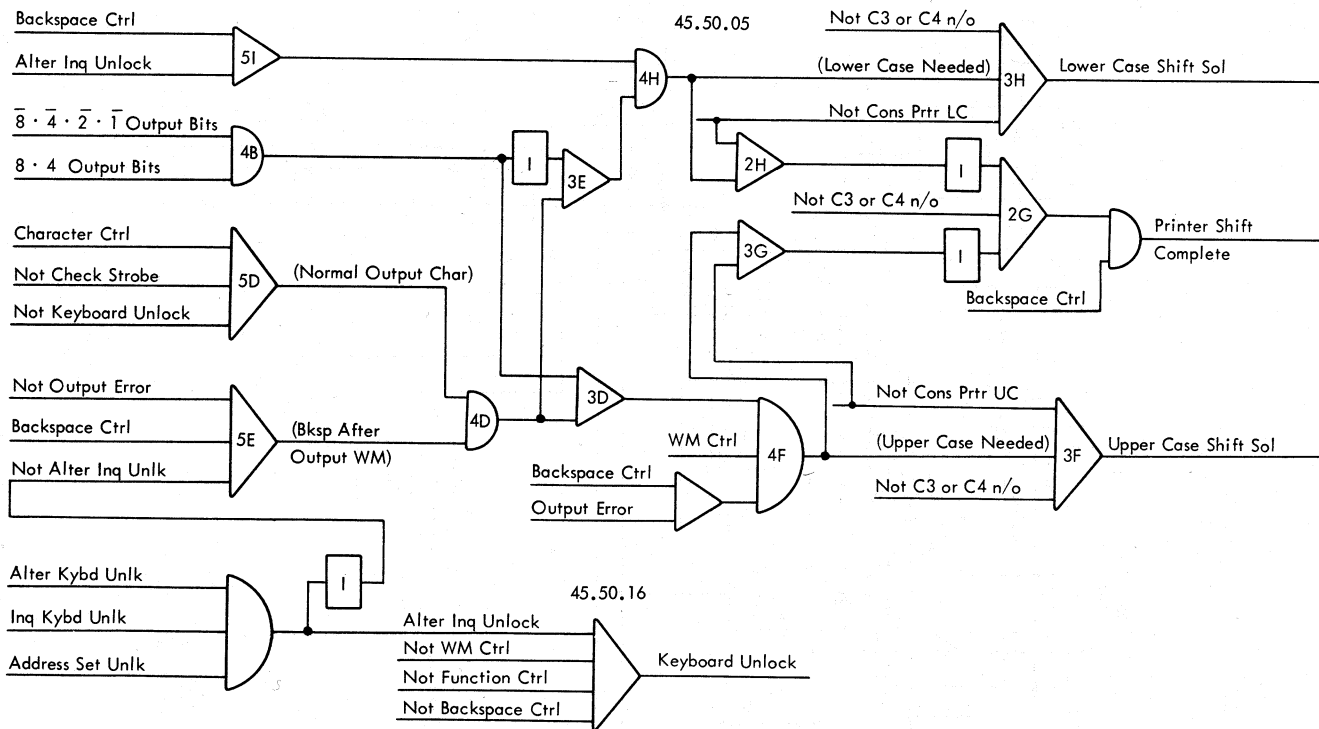

Figure 24. Shift Controls
The output lines are also analyzed to determine whether the character is an upper case or a lower case character (Figure 24). Any bit configuration with $\overline{8} \cdot \overline{4} \cdot \overline{2} \cdot \overline{1}$ or $8 \cdot 4$ bits indicates an upper case (UC) character. All other bit configurations indicate a lower case (LC) character. The printer shift mode contacts indicate the case, upper or lower, that the printer is in. The console character control latch on, allows the output bits to energize the proper shift magnet if a shift is necessary.